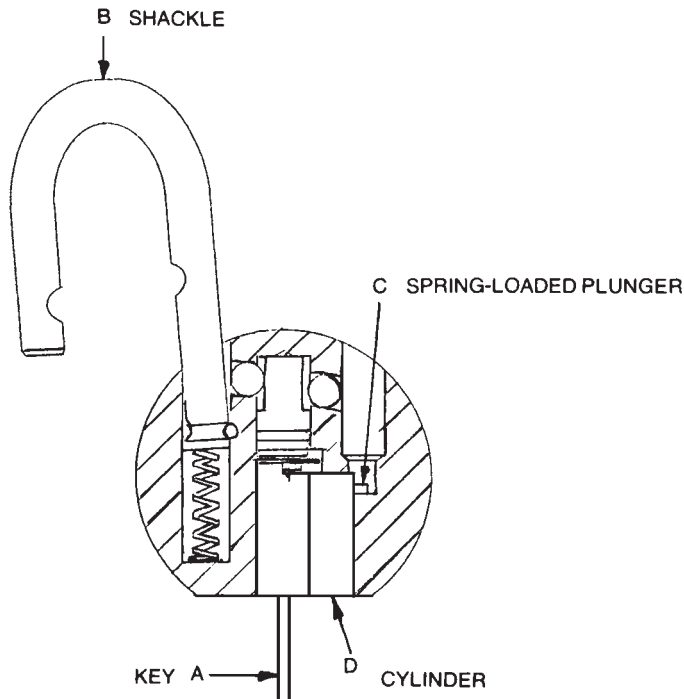

Figure 12.7 The American 600 series padlock.
To remove the cylinder in the 600 series pin tumbler padlocks, unlock the padlock, and turn the shackle as shown in Fig. 12.7. Depress the spring-loaded plunger (A) with a small screwdriver until the plunger is flush with the wall of the shackle hole. At the same time, pull on the key. Withdraw the cylinder.